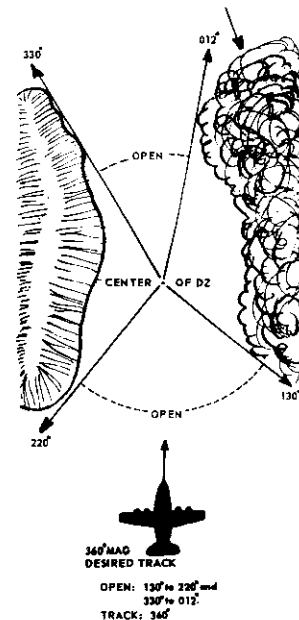

Figure 24. Computation of open quadrant and desired heading.
(4) Track. Magnetic azimuth of required or recommended aircraft approach (figure 24).